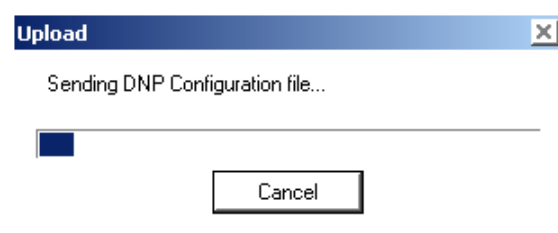

Figure 1-13 Sending DNP Configuration File Status Screen
- b. Select the file to be sent to the control, then select **Open**. IPSCOM will initiate the file transfer as indicated by the "Upload" status screen (Figure 1-13), followed by a "DNP File sent successfully" confirmation screen.